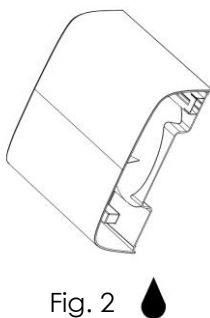

Fig. 2
2. Discard the collected water. (Fig. 2)